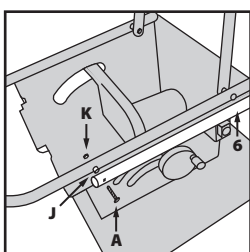

Fig. 10
- Attach component **3** to the rest of the leg assembly using the remaining fixings labelled **A, J** and **K (Fig. 10)**. It may help to move component **4** out of the way.